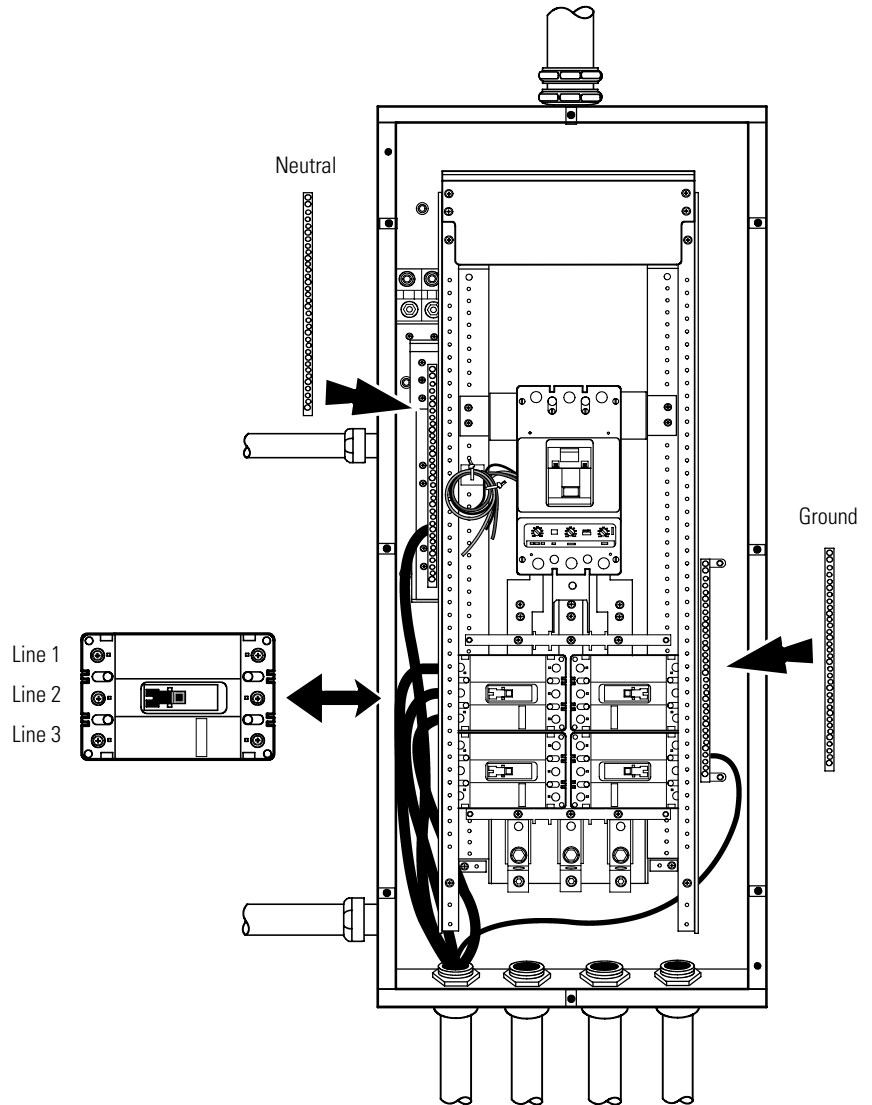

Figure 7. UPS Output to Tie Cabinet Wiring
19. Hardwire the output terminations from the UPS to the Tie Cabinet (see Figure 7).